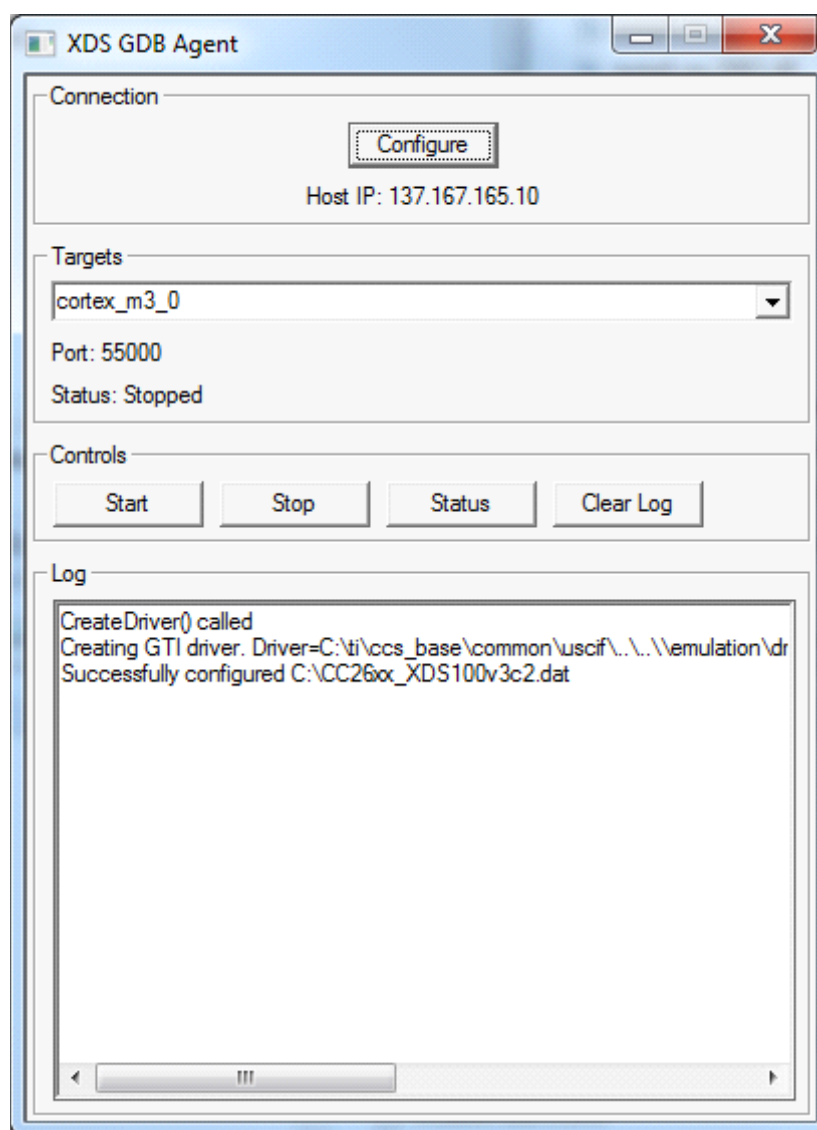

Figure 20. Launching the GDB Server (Windows)
3. Next, press the 'Start' button (see Figure 20). The GDB server agent is now started.